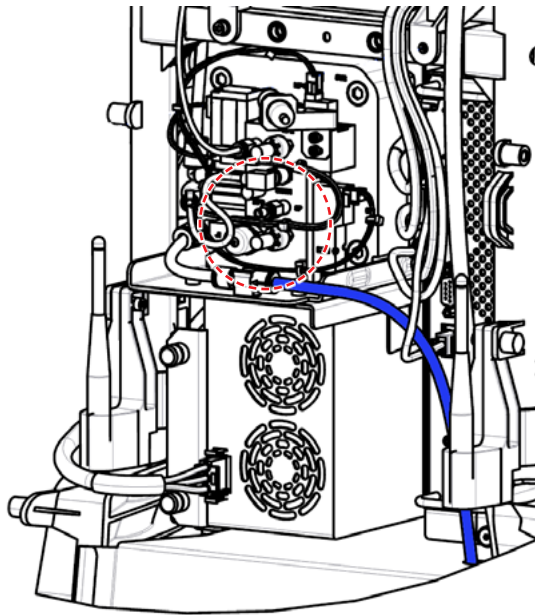

Figure 3-21 Pneumatic Tubing Connecting Pneumatic Manifold and Vit Pump
- 18.5 Disconnect yellow and blue pneumatic tubing from Pneumatic manifold (see Figure 3-21).
- 24.2 Disconnect blue tubing between Pneumatic Manifold and Vit Pump (see Figure 3-21).
- 26.4 Disconnect blue tubing from Pneumatic Manifold (provides clearance to remove Host module - see Figure 3-21).